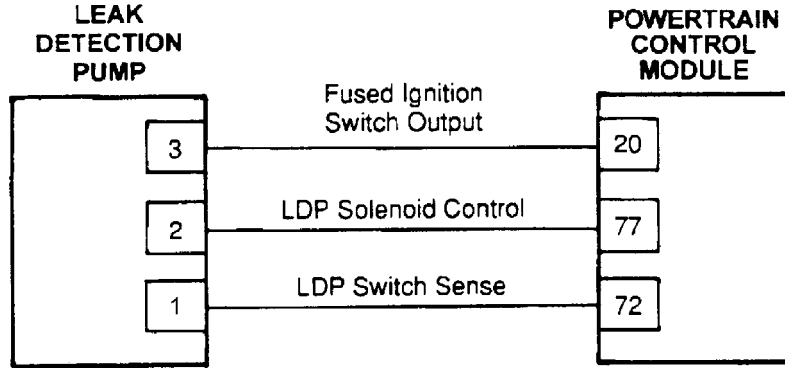

Figure C064-8 Typical leak detection pump solenoid circuit for 2003 minivan with 3.3L or 3.8L engine
- Figure C064-8 Typical leak detection pump solenoid circuit for 2003 minivan with 3.3L or 3.8L engine